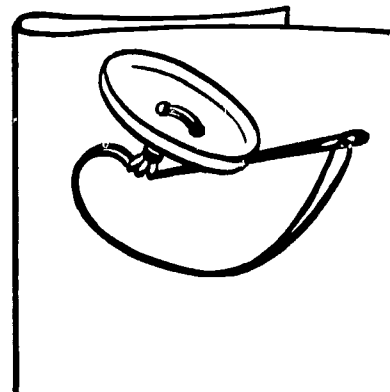

Figure 92.
5. When enough stitches have been made, bring the needle out between the button and the fabric (see Figure 92).
6. Remove pin. Hold the button away from fabric as you wrap thread around stitches to form a firm shank (see Figure 92).